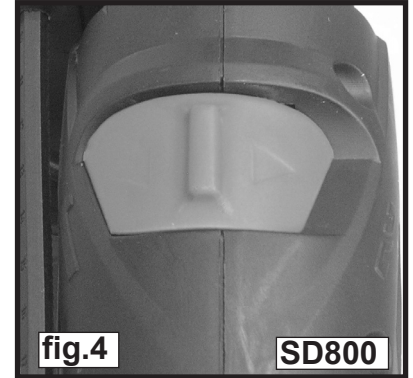

fig.4
3.2.8. **Selection of hammer action / drilling.** When using a masonry drill bit the hammer action can be used to assist penetration into concrete, stone and masonry. The hammer action selector is a large sliding 'switch' situated on top of the drill (See figs.4 & 5). To select hammer action slide the selector to the left so that it is adjacent to the hammer symbol moulded on the side of the case. To disable the hammer action slide the switch in the other direction to be adjacent to the drill symbol moulded on the other side of the casing.